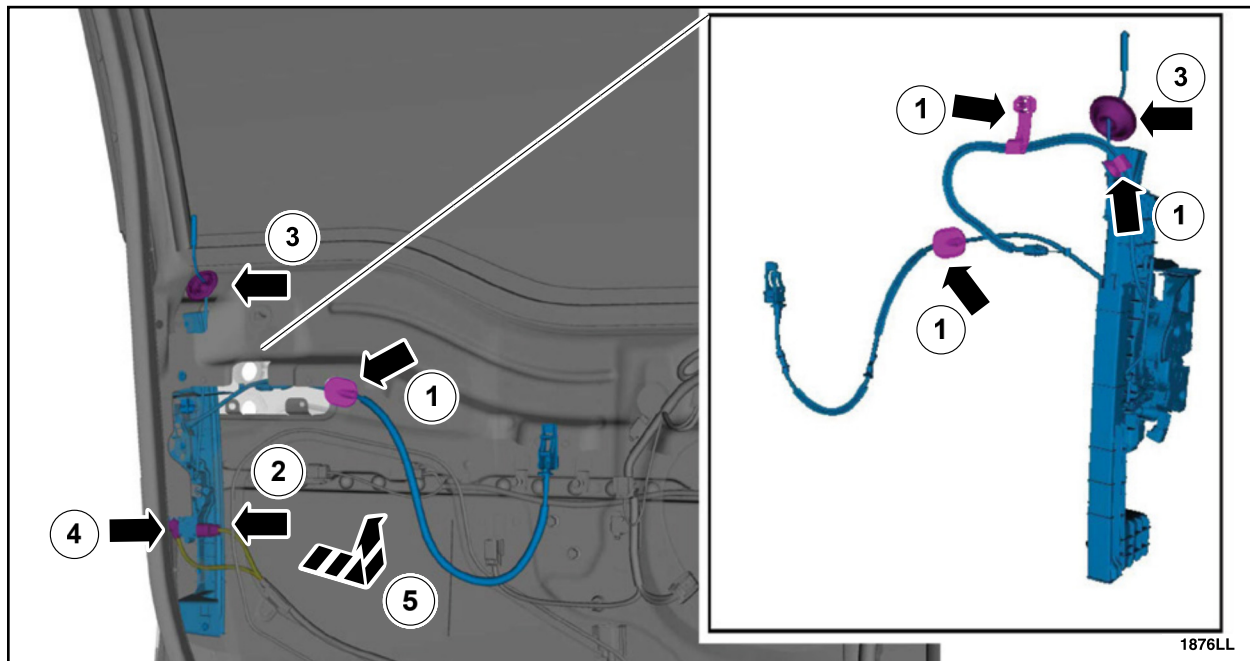

FIGURE 39
11. Remove the rear door latch. See Figure 39.
21. Install the rear door latch. See Figure 39.